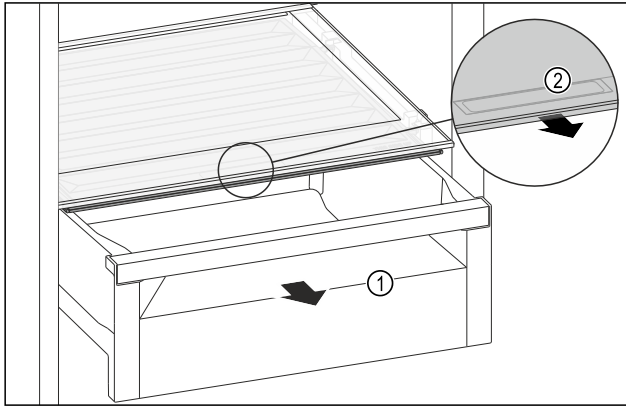

Fig. 80
- Pull out the drawer Fig. 80 (1).
- Grip the handle recess Fig. 80 (2) on the lid while pulling the lid forward at the same time.